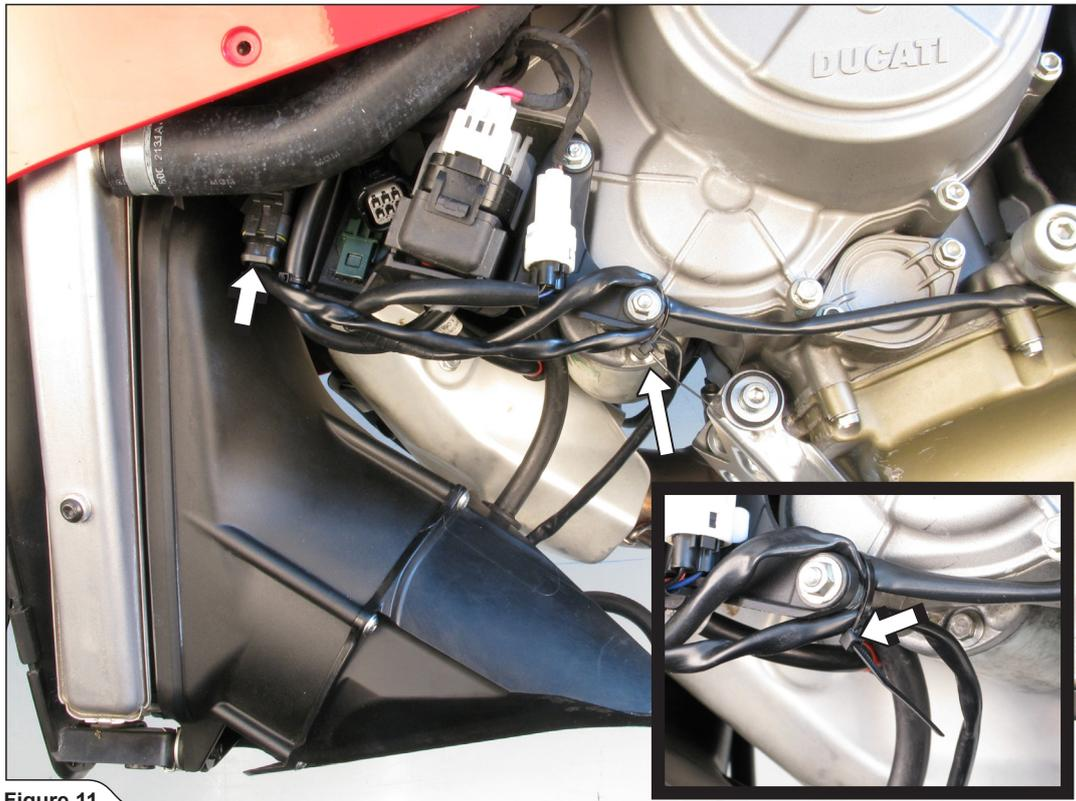

Figure 11
9. Reconnect the cooling fan's connector and secure the electrical leads as shown, using tie wrap from Akrapovič installation kit (Figure 11).